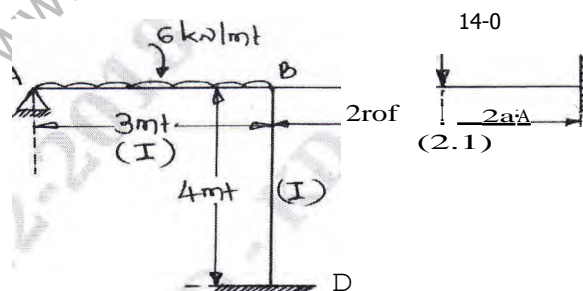

Fig.Q2
- 2 Analyse the frame shown in Fig.Q2 using Slope Deflection method", and draw BMD and SFD. (20 Marks)